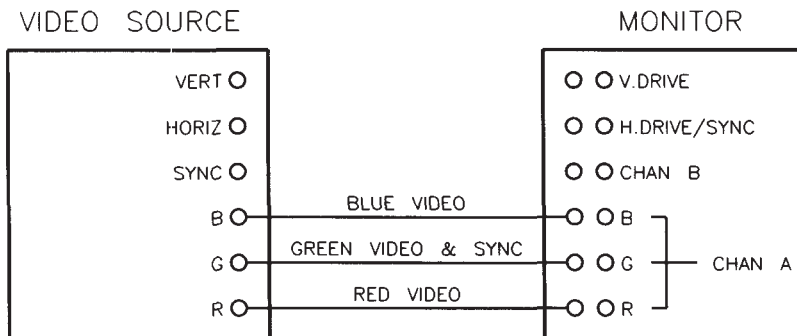

Figure 8-5. HP 13279B Cable Connections.
- a. Connect one cable from the RED video output on the HP 98627A Interface to the CHANNEL A RED IN connector (J1) at the rear of the monitor (see Figure 8-5).
- b. Connect one cable from the GREEN video output on the HP 98627A Interface to the CHANNEL A GREEN IN connector (J3) at the rear of the monitor (see Figure 8-5).
- c. Connect one cable from the BLUE video output on the HP 98627A Interface to the CHANNEL A BLUE IN connector (J5) at the rear of the monitor (see Figure 8-5).